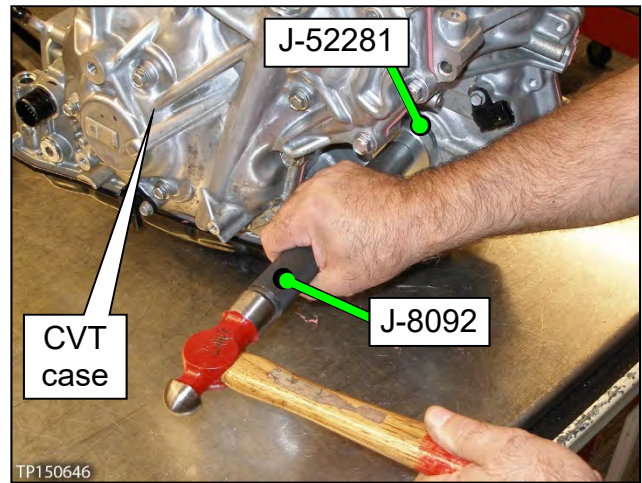

Figure 105
83. Install the CVT case side axle seal (Figure 105).